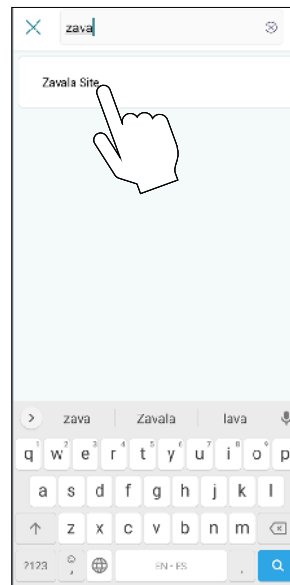

Figure 122. Choose Organization
4. “Choose organization” screen will be displayed and it will show all the available organizations. Navigate the sub Organization list or use the search tool to locate desired organization. See **Figure 122**.